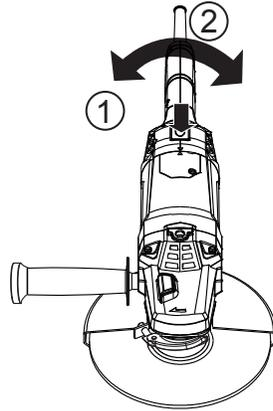

Fig. 6
4. TO USE THE ROTARY HANDLE (See Fig. 6)